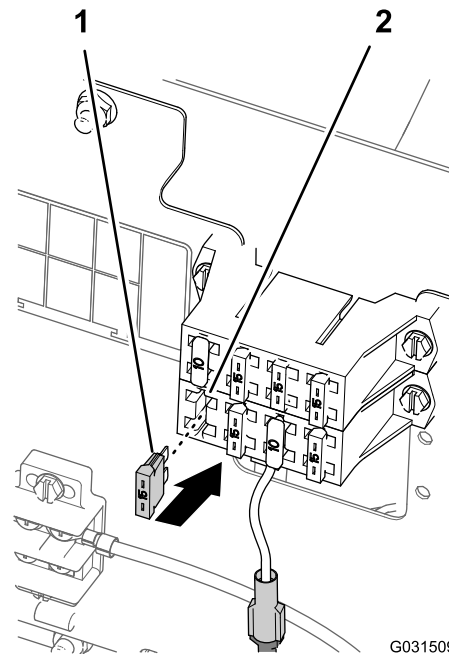

Figure 206
- For a machine with the bladed-attachment connector at the fuse block for the machine, install the 15 A fuse into the fuse block (Figure 206).